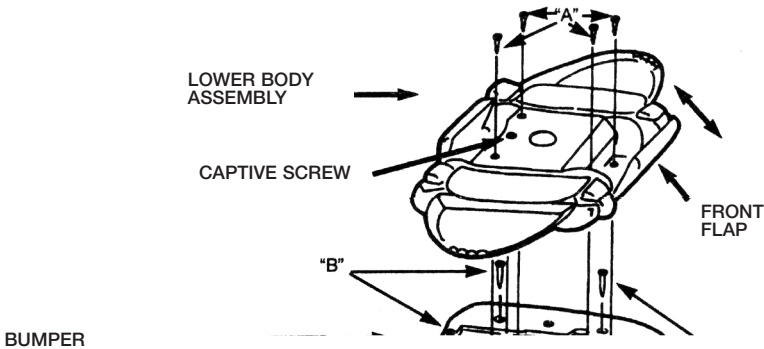

Figure 13
(see Figures 13, 14 & 15).
- g) Remove four (4) "A" screws (see Figure 13).
- h) Lift the Lower Body Assembly off the Pool Vac Ultra (see Figure 13).
- i) Remove four (4) "B" screws (see Figure 13).
- k) Remove two (2) "C" screws (see Figure 13).